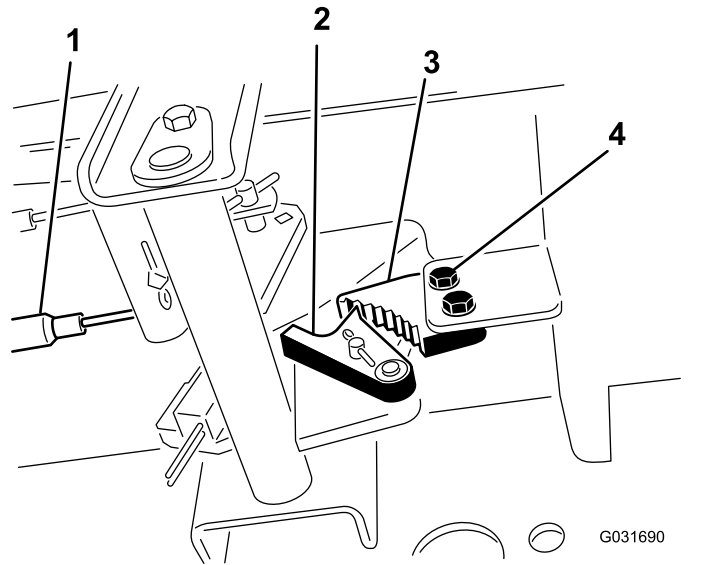

Figure 55
1. Loosen the 2 screws securing the parking brake pawl to the frame (Figure 55).
2. Press the parking brake pedal forward until the brake detent completely engages on the brake pawl (Figure 55).